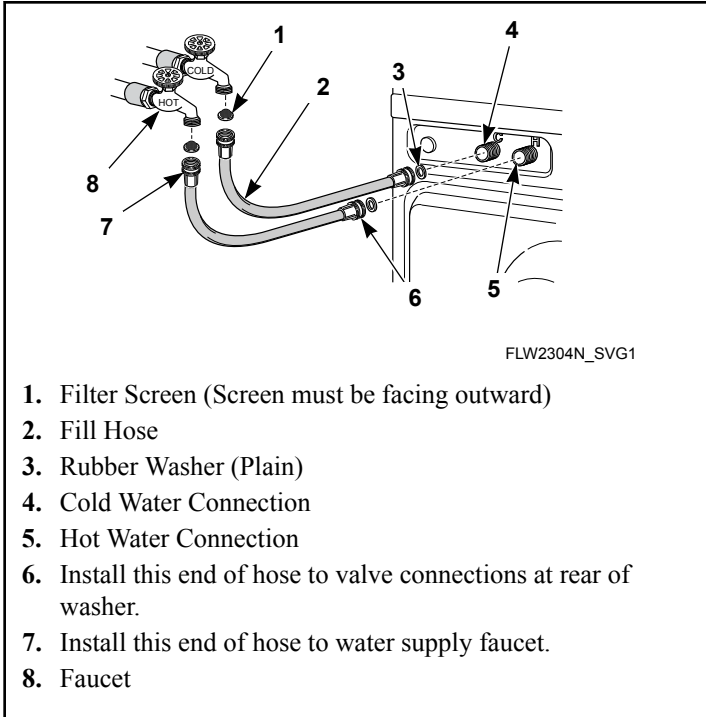

Figure 6
2. Install them into each end of the fill hoses as shown in *Figure 6*. The screen must be facing outward.
mixing valve marked “H” and the blue color-coded hose from the cold faucet goes to the valve marked “C”. Refer to Figure 6 .